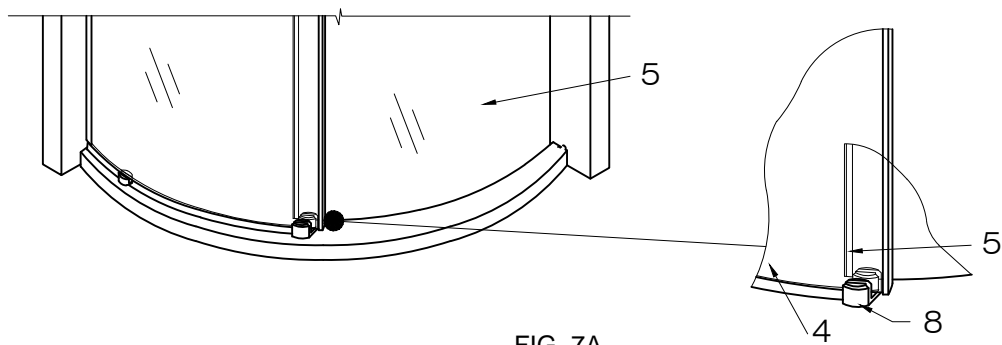

FIG. 7A
4. Verify that the bottom of the door aligns with the notch in the bottom door guide (#8). [SEE FIG. 7A]